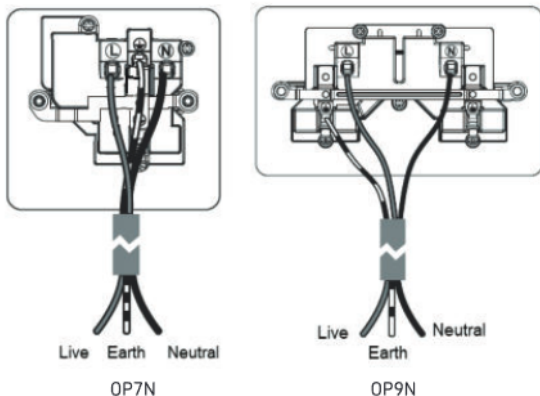

Fig. 3
- Replace the gasket onto the backbox, then wire as shown in Fig. 3 ensuring the correct polarity is observed: L - Live (brown), E - Earth (green/yellow), N - Neutral (blue)